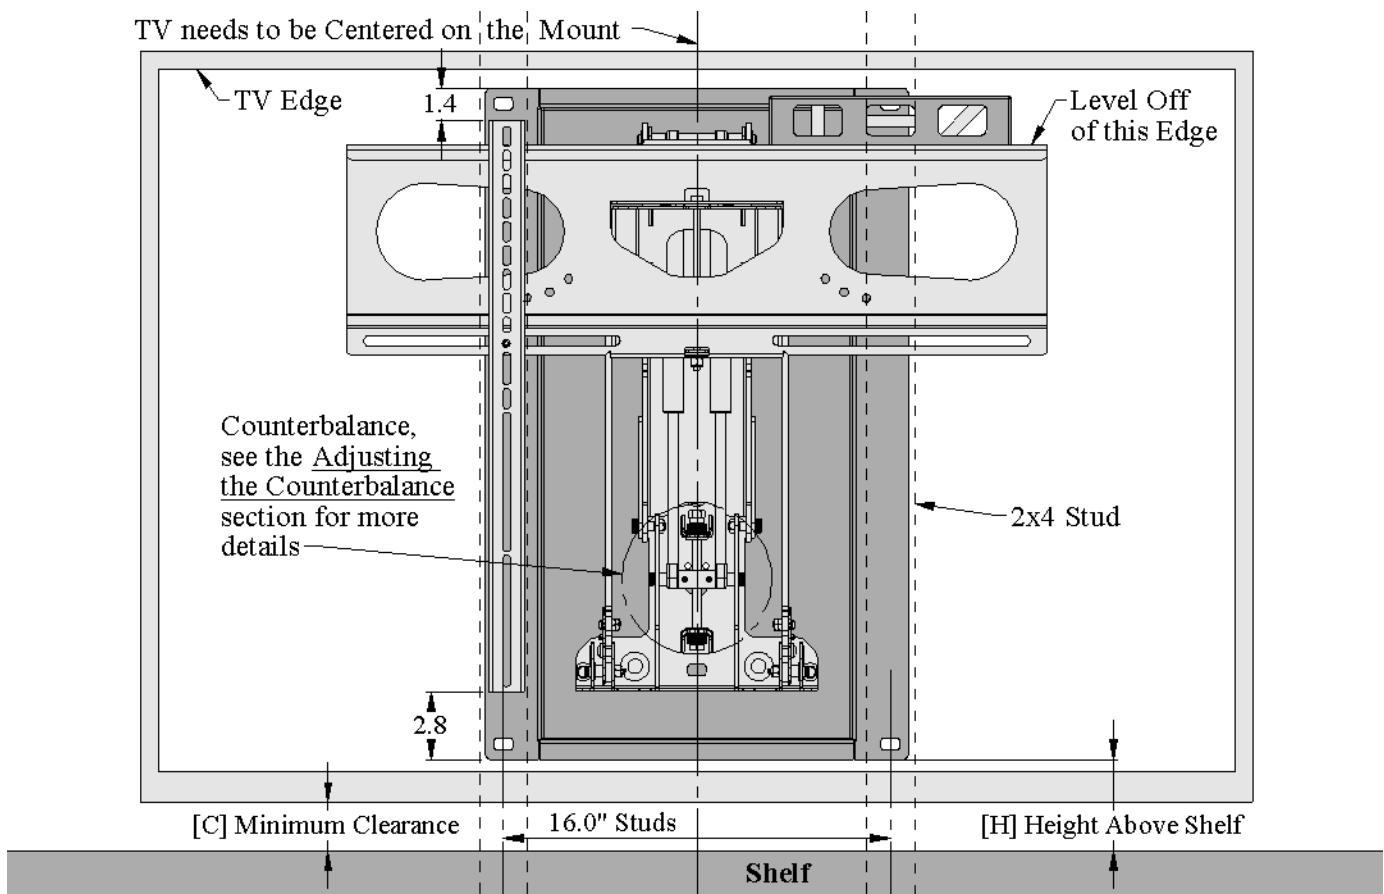
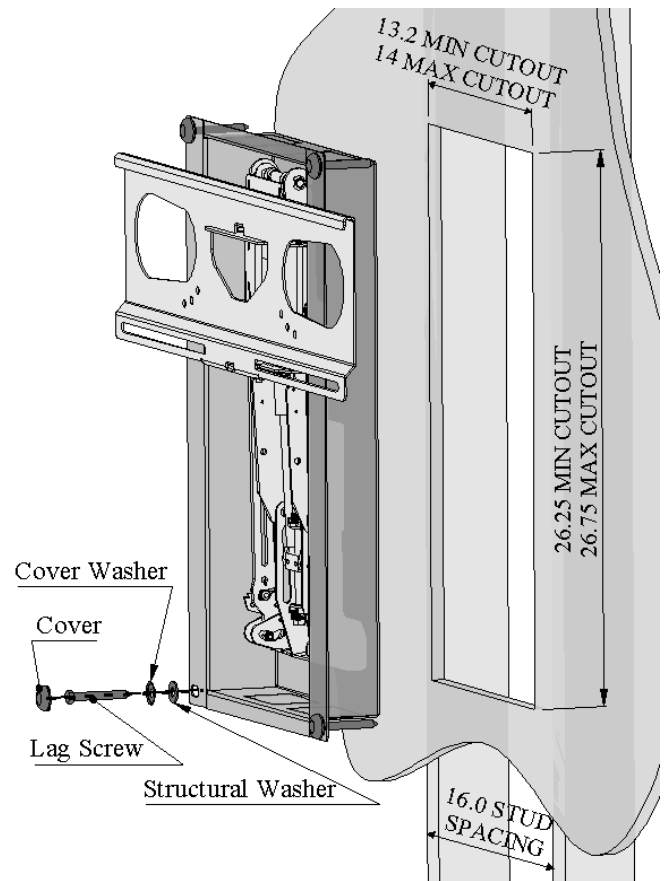

Figure 7, Positioning Mount on the Wall
Figure 8, Attaching to Wall
- **The TV isn't level in all positions.** When attaching to the wall, level off of the Hook Plate Edge, NOT the plate that attaches to the wall, see Figure 7 on page 5.
1. Figure 7 and Figure 8 show how the mount gets laid out in the wall.
4. The Center of the TV should be centered between the 2 16" studs as shown in Figure 7.
1. Figure 7 shows the important things to look for and measure.
6. Figure 7 shows how the TV Hangers relate to the Recess Box.
1. Once you know your location, draw a 26.25" tall x 13.2" wide rectangle centered horizontally on the TV as shown in Figure 8.
7. Figure 8 shows the correct order to put on the lag screw.
9. Level the mount as shown in Figure 7.
The TV Clearance Table shows the minimum clearance [C] needed between the shelf top and the bottom of the TV (or the bottom of an attached speaker, whichever is lower) for the mount to swing around the shelf. To find the clearance needed, find the shelf depth [D], in this example 8", and go down the column and find the corresponding minimum clearance height [C], which is 3". Figure 7 shows where to measure [C] and [H].
Detail from Figure 7.